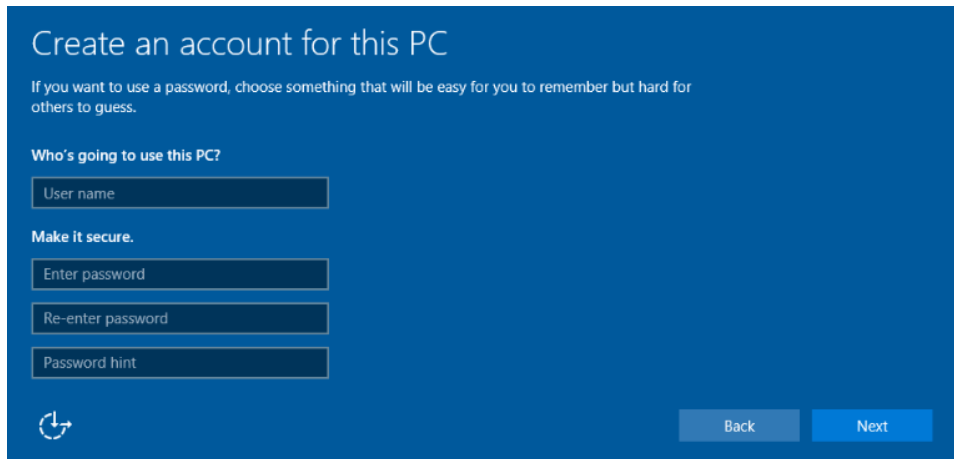

Figure 2-11. Create an Account for this PC dialog
The installation program displays the Create an Account for This PC dialog (Figure 2-11).
6. In the Create an Account for This PC dialog (Figure 2-11), enter a user name, password, and password hint for the Windows administrator and click **Next**.